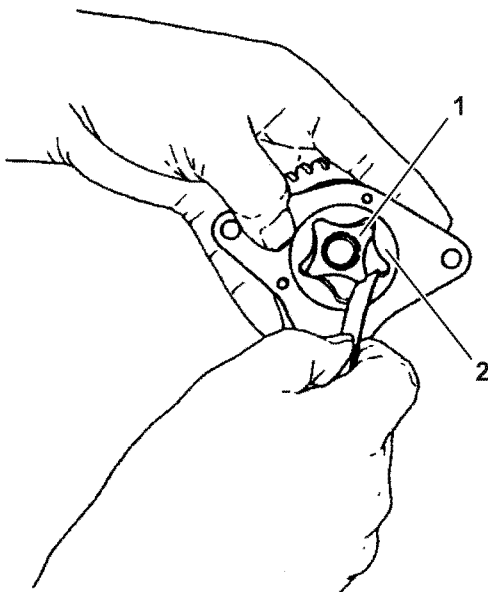

Figure 9-7
Inspect the tip clearance between the outer and inner rotors. To inspect this, insert a feeler gauge between the inner rotor tooth tip (**Figure 9-7, (1)**) and the outer rotor tooth tip (**Figure 9-7, (2)**), and measure the clearance.